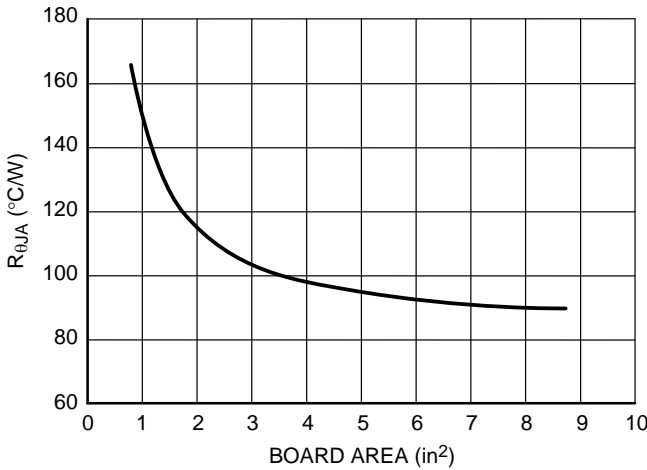
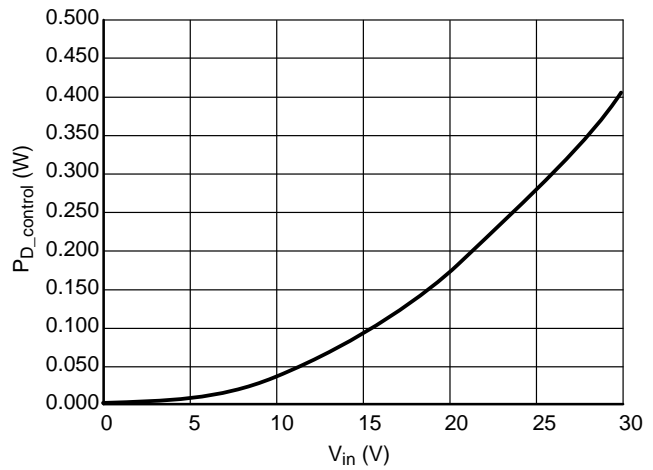

Figure 4. $R_{\theta JA}$ versus Board Area
Figure 5. Power Dissipation vs. V_{in} for the NUD4001
5. Calculate the power dissipation in the NUD4001 control circuitry based on the information in Figure 4 of the data sheet.
There will be some additional current flowing through the NUD4001 due to the external resistor R2 and Schottky diode D1. A good estimate is to take 1.1 times the value shown in Figure 5 as being the new internal power dissipation in the control section of the NUD4001.
8. Calculate the heatsink requirements for the NUD4001 based on the information in Figure 11 in the data sheet. This graph is reproduced as Figure 5 in this paper. From Figure 4, the worst case $R_{\theta JA} = 170^\circ\text{C/W}$ with minimum board area.